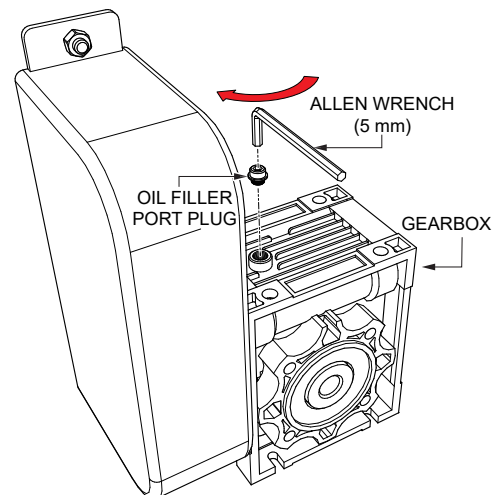

Figure 36. Reinstalling Oil Filler Port Plug
9. Reinstall gearbox filler port plug (Figure 36). Tighten securely.